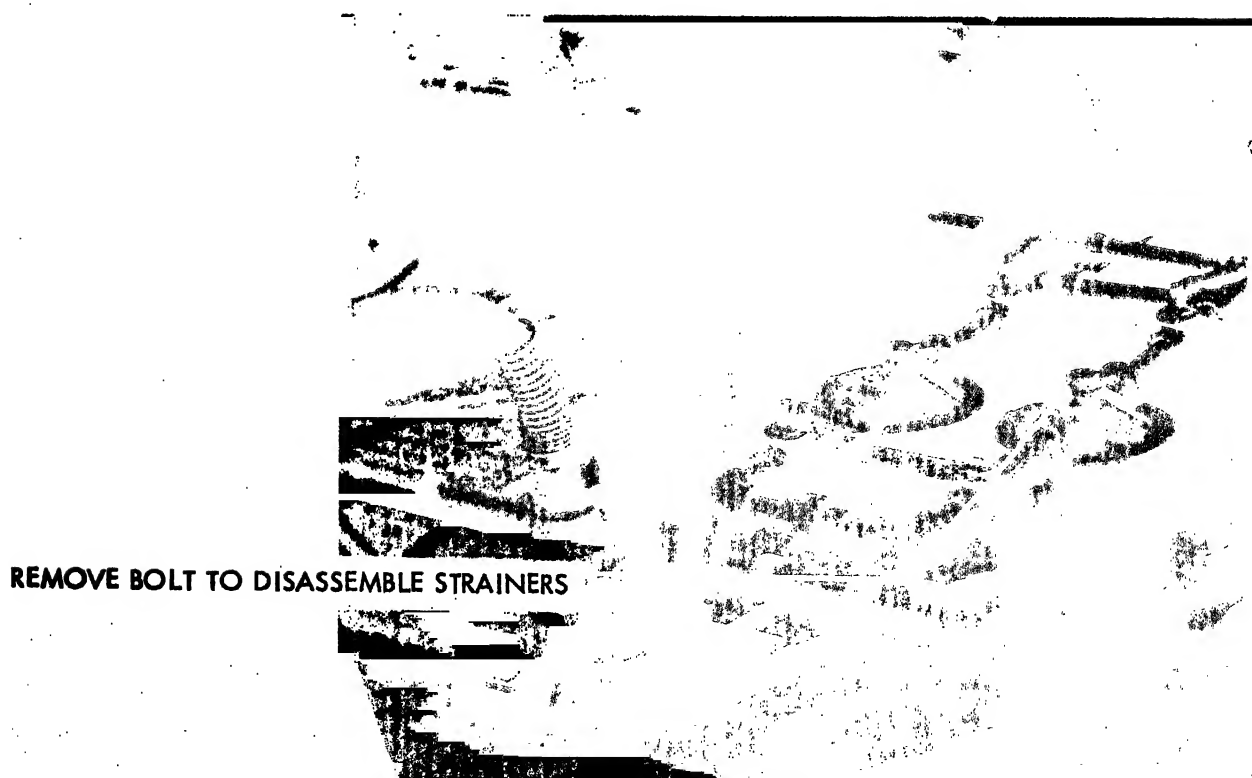

FIGURE 43. REMOVAL AND SERVICE OF FUEL OIL STRAINERS
- a. Removal. Refer to Fig. 43 and remove the fuel oil strainers.
- c. Installation. Refer to Fig. 43 and install the fuel oil strainers.
2. Refer to Fig. 43 and remove the fuel oil valves, fuel oil lines and fittings.
1. Refer to Fig. 43 and install the fuel oil valves and fuel oil lines and fittings.